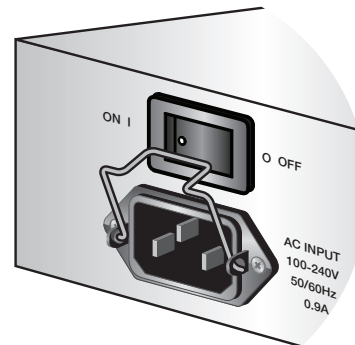

Figure 13. Power cord retaining clip in the up position
1. Position the power cord retaining clip in the up position, as shown in Figure 13.